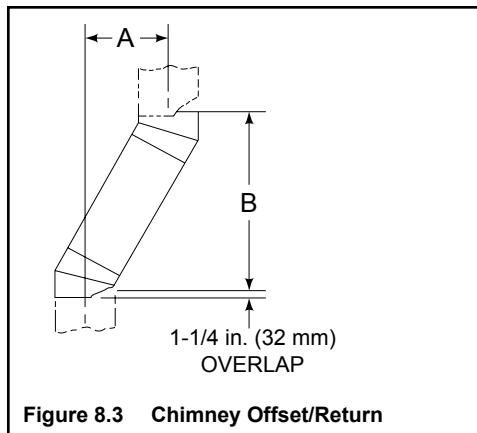

Figure 8.3 Chimney Offset/Return
- Measure the shift needed to avoid the overhead obstruction. Refer to dimension A in Figure 8.3.
Your “A” dimension from Figure 8.3 is 14 1/2 in. (368 mm). Using Table 8.2 the dimension closest to, but not less than 14 1/2 in. (368 mm) is 15 3/4 in. (400 mm) using a 30° offset/return.